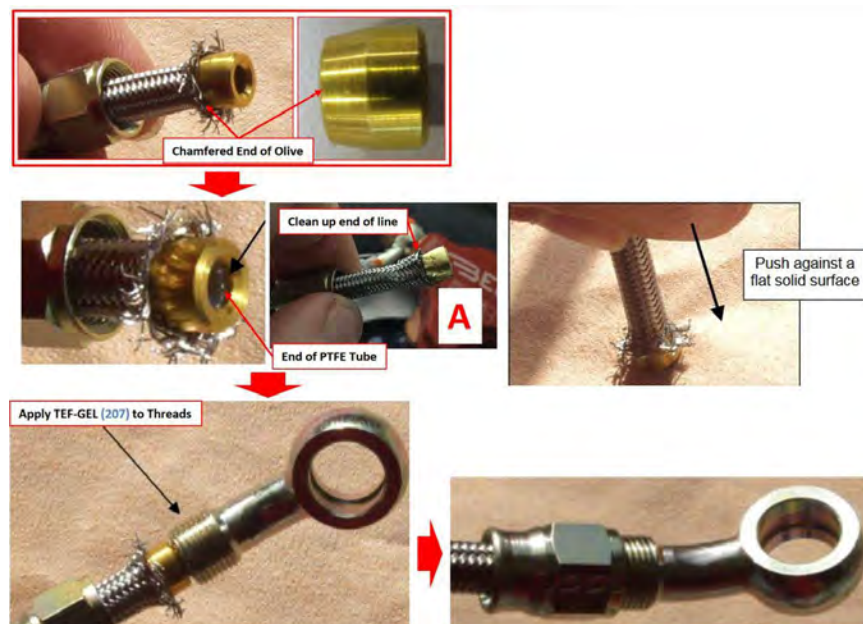

FIGURE 15-17
6. Push the chamfered end of the olive onto the PTFE inner liner and under the stainless steel braid, making sure that all stainless strands are outside of the olive (see Figure 15-17).